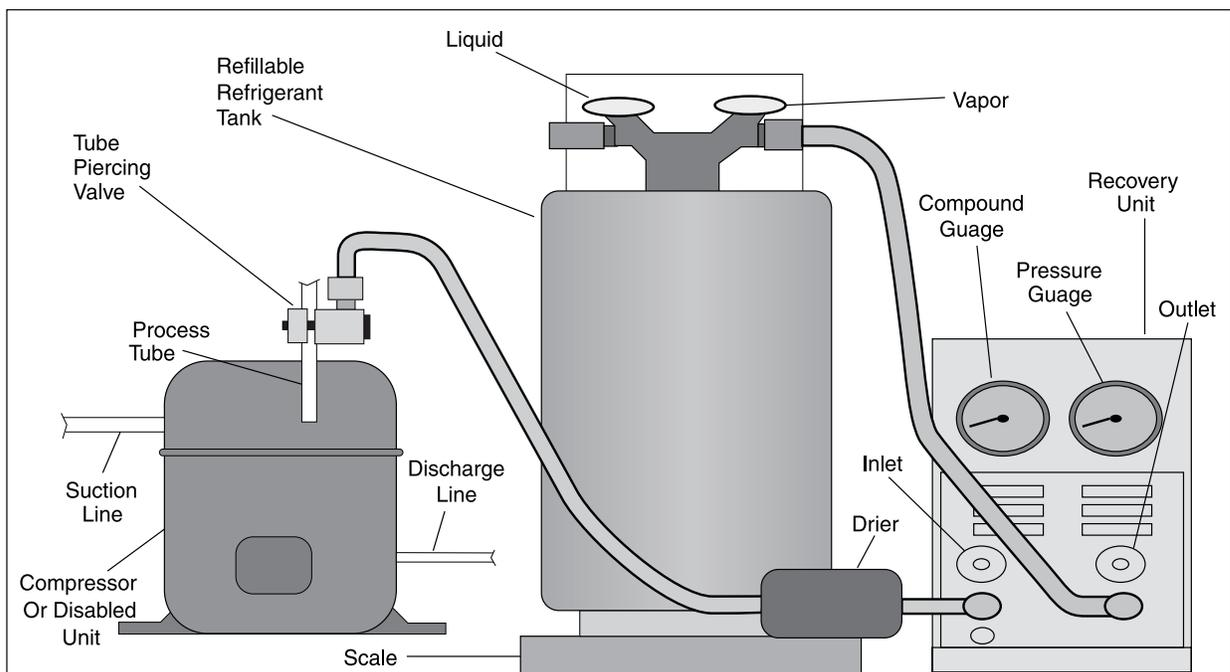

Figure 7-4. Installation of Recovery Equipment
2. Attach an approved self tapping line tap valve to the process tube. Connect refrigerant recovery system to tap valve. Turn on recovery system, open the line tap valve, and allow refrigerant to flow into an approved tank. (See Figure 7-4)
4. Shut system down and allow to set for two minutes. If pressure is below (0) pounds per square inch, disconnect equipment and proceed with repair.
5. If pressure does not stay bellow (0) pounds per square inch, repeat steps 3 and 4 until ail refrigerant is removed and system remains in a vacuum.